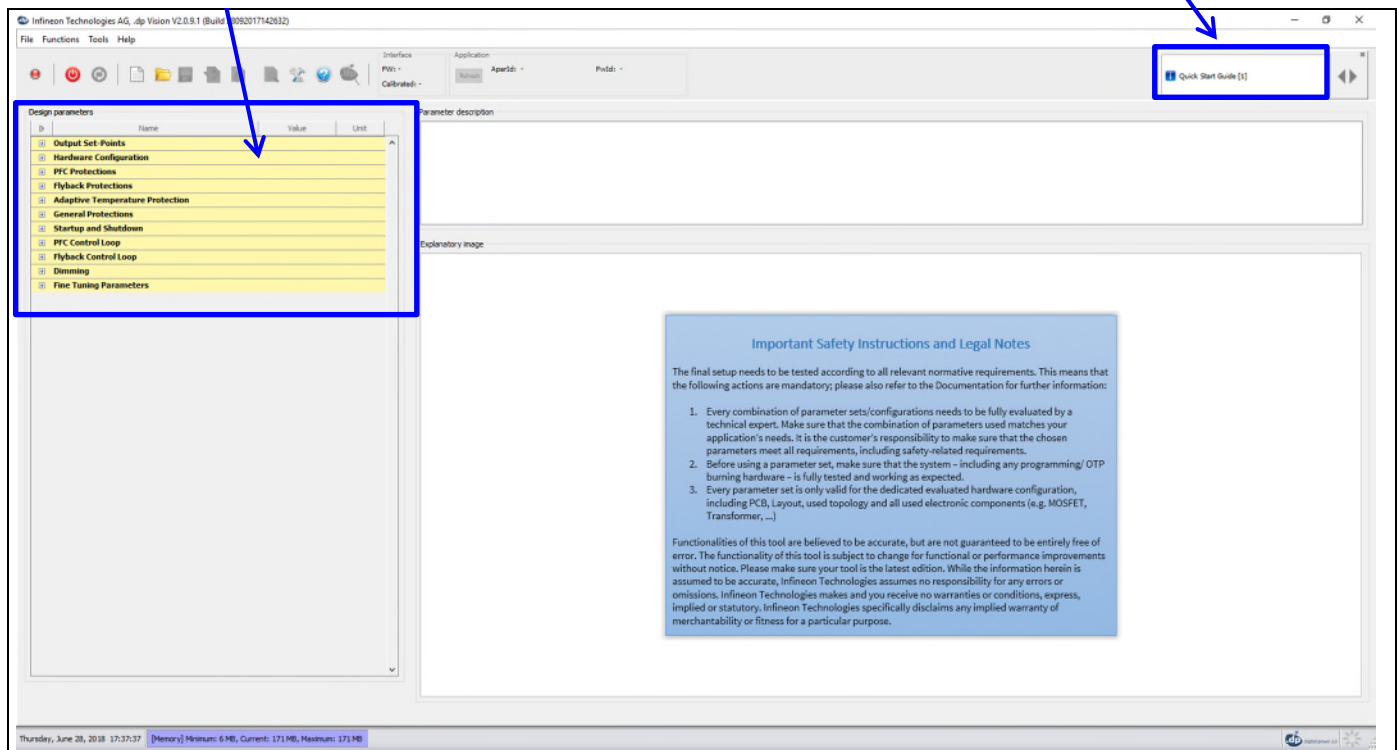

Figure 8 Parameters file loaded in .dp Vision
Load the XDPL8221 parameters configuration file (\*.csv) in the folder (HOME) \Infineon Technologies AG\ .dp vision\Parameters as shown in **Figure 8**. Please select the corresponding file (e.g., for a 50 W board choose the “XDPL8221\_FWvx.x.x\_50W” file).
After loading the parameters .csv file, a list of XDPL8221 configurable parameters will show (see the box on the left in **Figure 8**). These values can be modified by users and will turn blue.
**Note:** The message bar shown in Figure 8 provides detailed information. For further information, please refer to the “dpvision User manual”.
1	Open configuration file and change parameter value (see example in <a href="#">Figure 8</a> ).
1	Load configuration file (see example in <a href="#">Figure 8</a> ).